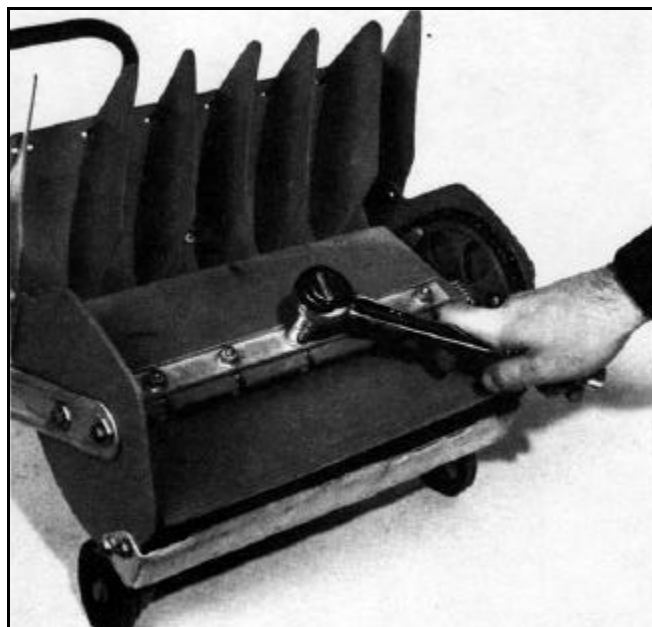

Figure 168
2. With the impeller housing facing you, loosen the carriage bolts that retain the paddles and reinforcing straps to the impeller sprocket/tube (Figure 168).